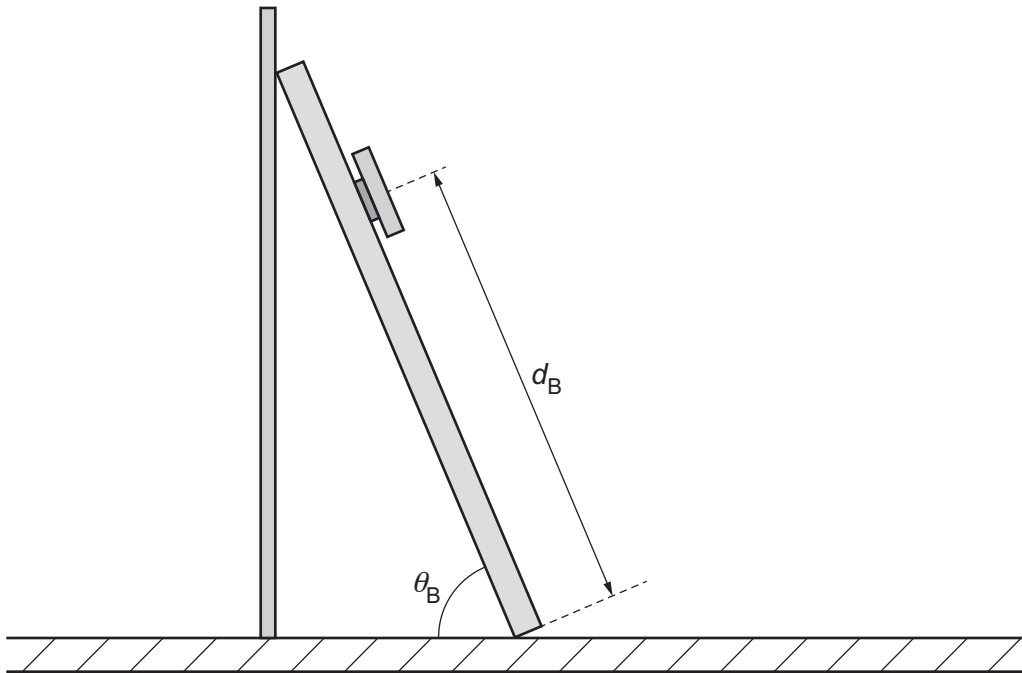

Fig. 2.3
- (v) • Invert the thicker strip and lean it against the smooth board so that the slotted mass is nearer the upper end as shown in Fig. 2.3.
- The angle between the strip and the bench is θ_B , as shown in Fig. 2.3.